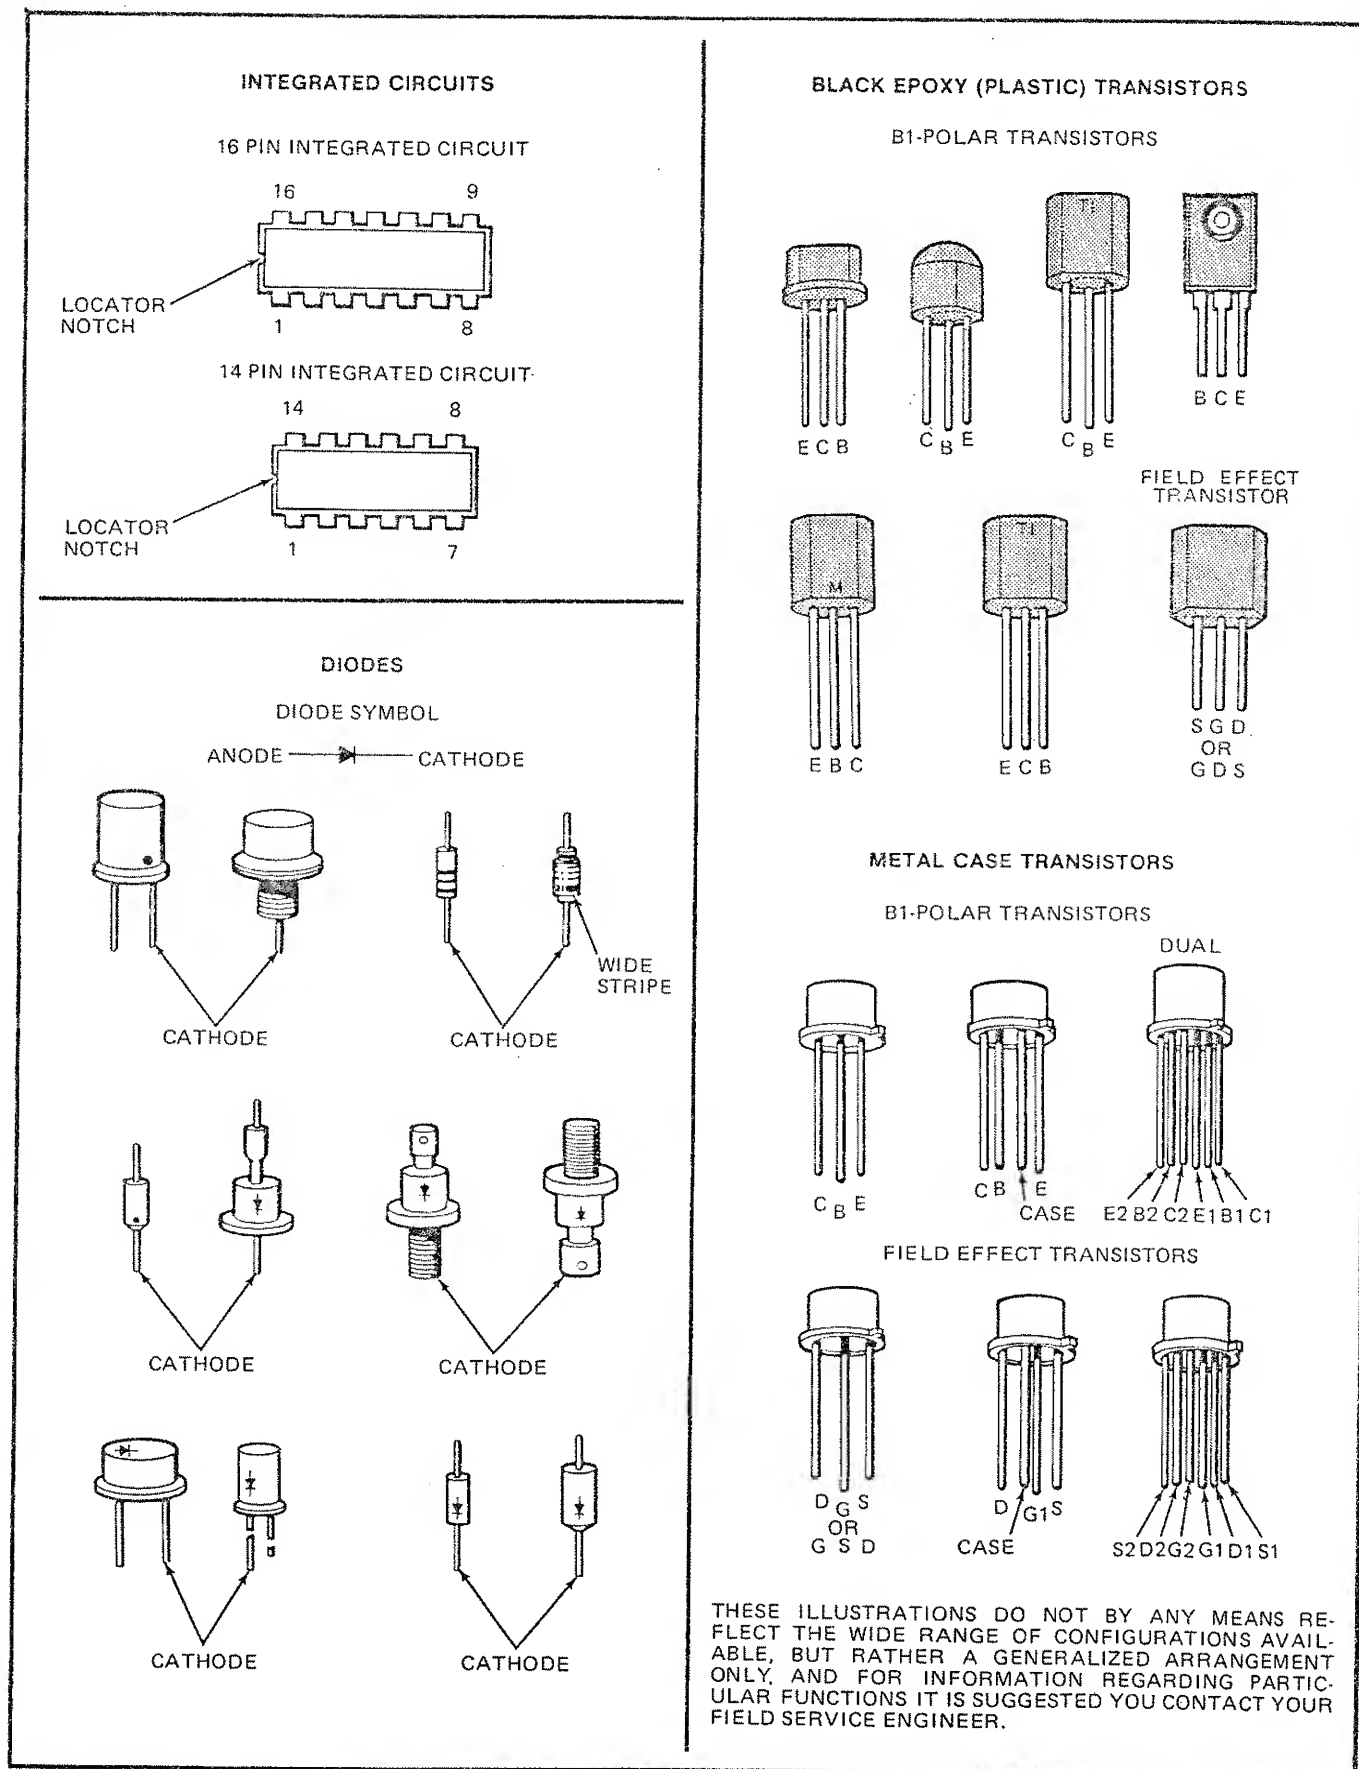

Figure 8-1. Semiconductor Identification
**8-24. SEMICONDUCTOR REPLACEMENT.** Semiconductor devices are available in a wide variety of shapes and sizes. This can make it confusing to identify the leads. Examples of some of the most common configurations are shown in figure 8-1.